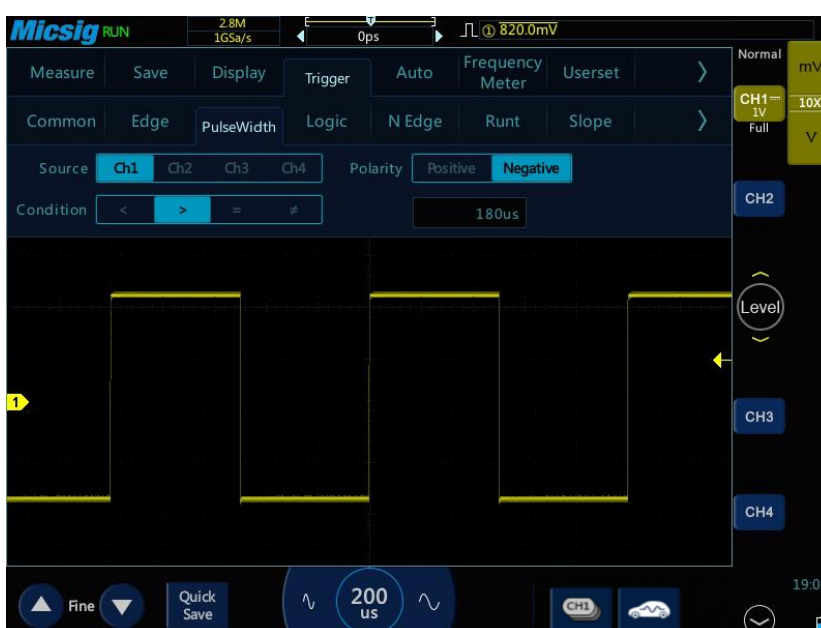

Figure 6-14 Negative Polarity Pulse Level Flip
The selected pulse polarity icon is displayed in the upper right corner of the display screen. The positive pulse is higher than current trigger level (CH1 positive pulse indication icon  ① 1.00V), and the negative pulse is lower than current trigger level (CH1 negative pulse indication icon  ① 1.00V). When triggered on positive polarity pulse, if the restrictions are true, the trigger will happen on the high-to-low transition of the pulse; when triggered on negative polarity pulse, if the restrictions are true, the trigger will happen on the low-to-high transition. (Figure 6-14 Negative Pulse Level Flip)